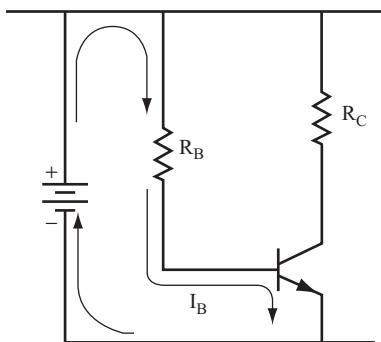
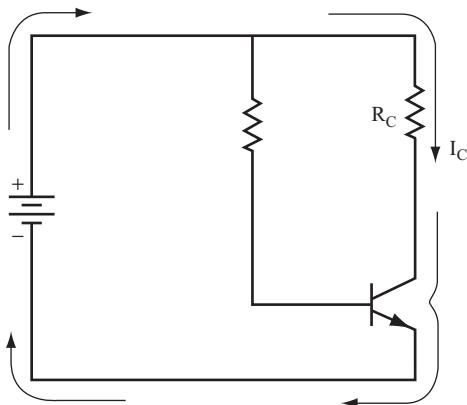

FIGURE 3.17
FIGURE 3.18
- 13** Consider the circuit shown in Figure 3.17. It uses only one battery to supply voltage to both the base and the collector portions of the circuit. The path of the base current is shown in the diagram.
When base current flows in the circuit shown in Figure 3.17, what other current can flow, and which components will it flow through? _____
15 In Figure 3.18 the arrows indicate the path of the collector current through the circuit.
A. See Figure 3.17 and Figure 3.18.